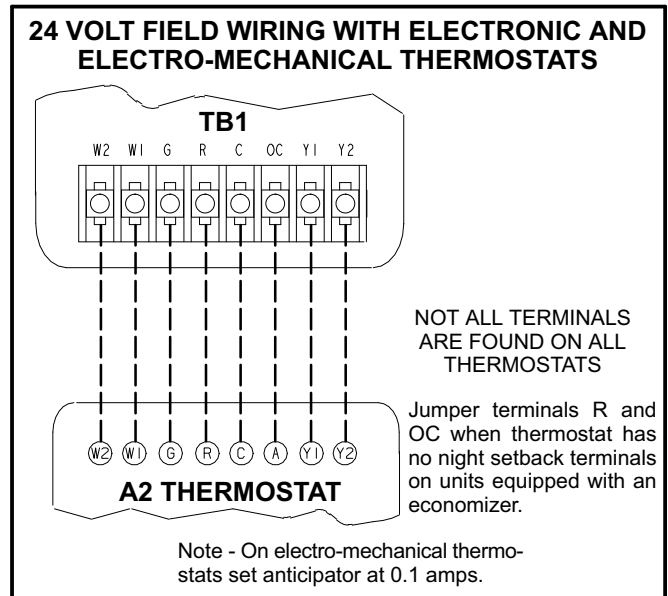

FIGURE 8
- 3- Connect thermostat wiring to TB1 terminal board on the lower side of the controls hat section. Wire as shown in figure 8 for electro-mechanical and electronic thermostats. If using other temperature control devices or energy management systems see instructions and wiring diagram provided by manufacturer.